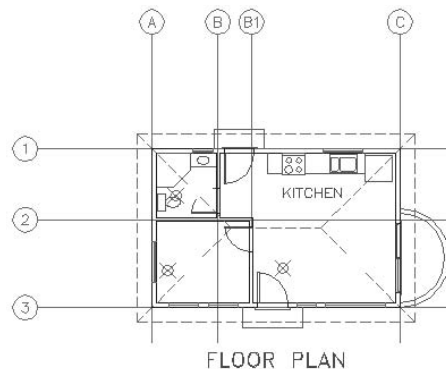

FIGURE B.8: The floor plan with markers for insertion points and three room labels erased
5. Erase the LIVING ROOM, BEDROOM, and BATH labels. The drawing should look like Figure B.8.